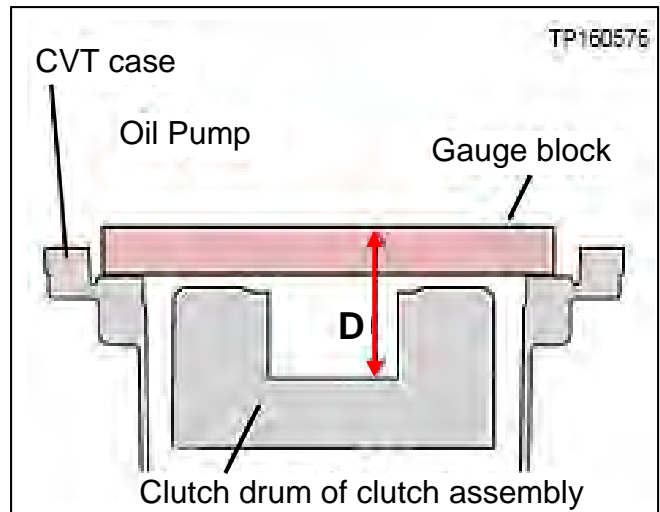

Figure 111
91. Calculate the average clutch assembly bore depth (D) (Figure 111) as follows: